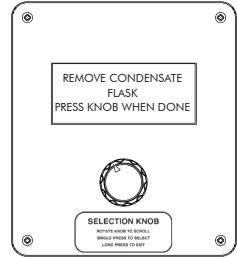

fig. no.25.1
1. Remove the conical flask and "SINGLE PRESS" the knob to end the process. (fig. no.25.1)